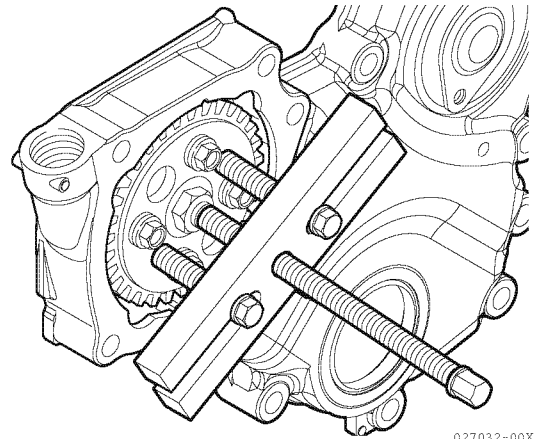

Figure 7-13
17. Remove the injection pump drive gear and hub from the injection pump drive shaft as an assembly using an appropriate gear puller (Figure 7-13).